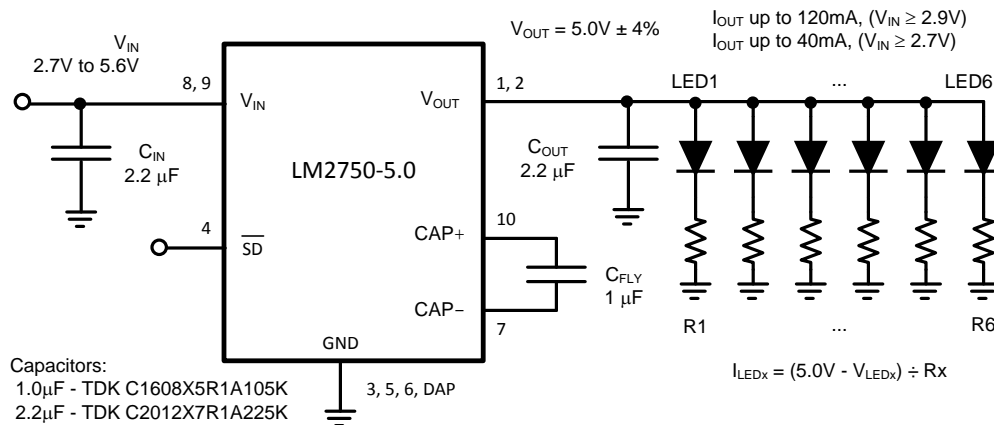
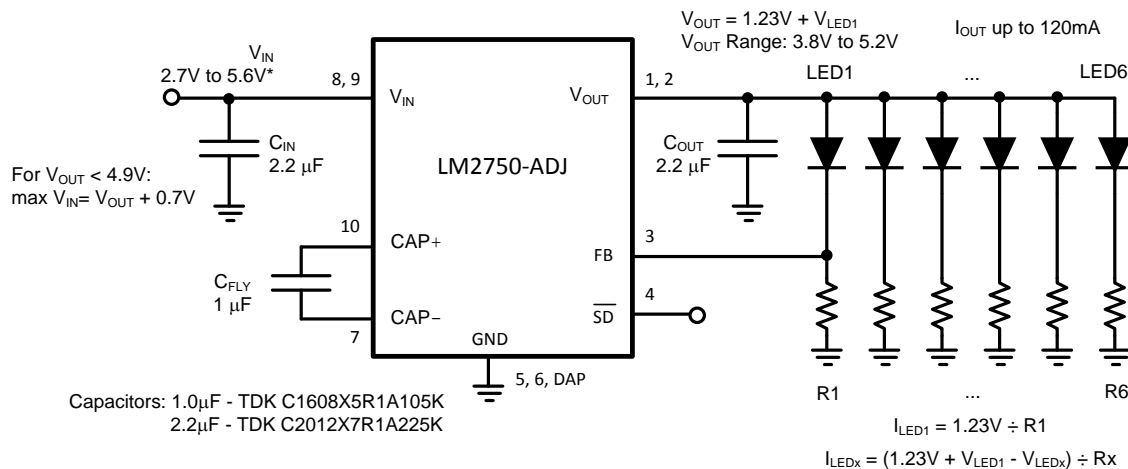

Figure 17. LM2750-5.0 LED Drive Application Circuit
Figure 18. LM2750-ADJ LED Drive Application Circuit
The LM2750 is an excellent part for driving white and blue LEDs for display backlighting and other general-purpose lighting functions. The circuits of Figure 17 and Figure 18 show LED driver circuits for the LM2750-5.0 and the LM2750-ADJ, respectively. Simply placing a resistor (R) in series with each LED sets the current through the LEDs:
The feedback pin of the LM2750-ADJ can be utilized to help better control brightness levels and negate the effects of LED forward voltage variation. As shown in Figure 18, connecting the feedback pin to the primary LED-resistor junction (LED1-R1) regulates the current through that LED. The voltage across the primary resistor (R1) is the feedback pin voltage (1.23V typ.), and the current through the LED is the current through that resistor. Current through all other LEDs (LEDx) will not be regulated, however, and will vary with LED forward voltage variations. When using the LM2750-ADJ in current-mode, LED currents can be calculated with the equations below: